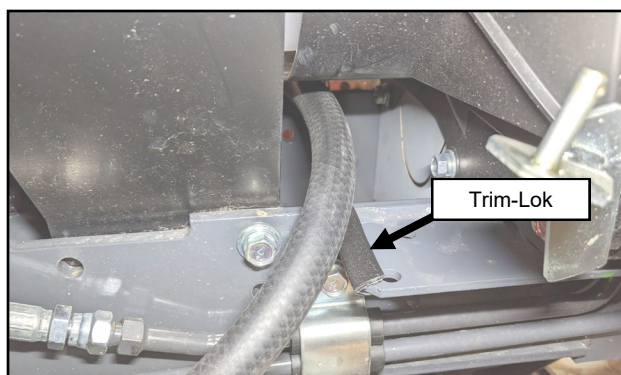

Fig. 15.18 (Add Trim-Lok)
- 15.18** Use the supplied Trim-Lok to cover any exposed edges of metal that might cut and damage the heater hose. See Figure 15.18.